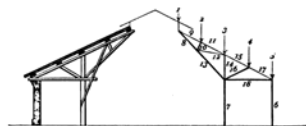

Fig. 9a.
44. Figure 9a* represents one half of a locomotive shed. The external forces are the weights 1, 2, 3, 4, 5 applied at